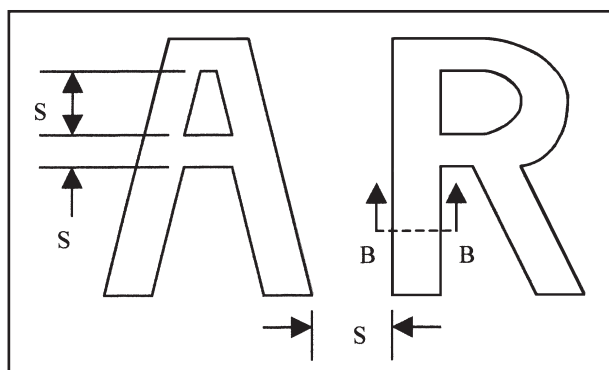

Figure 22A
Both raised and recessed letters and logos can be molded into RIM parts. The main thing to keep in mind to minimize molding flaws, and therefore part cost, is that RIM molding is a flow process. It does not use high pressure to fill out fine details in these features. The resin must have a path to flow in and the air a path to flow out in order to fill the feature without leaving voids. The key factors are: height or depth of the feature, width of the feature, radii on the feature and space between features (S). See figures 22A and 22B. These four factors also affect mold cost and lead time as discussed in Minimizing Mold Costs.
The inside or outside corners of the letters and logo in Figure 22A should have radii to minimize machining costs and part costs. Whether it's the inside or the outside corners depends on if you use raised or recessed characters. Premold Corp. can help you with the details to ensure the most cost effective design.